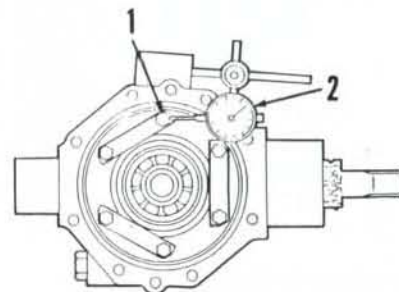

Fig. 11—Use a dial indicator (2) to measure ring gear (1) backlash. Refer to text for adjustment.
**7. RING GEAR TO PINION BACKLASH.** The backlash between ring gear and pinion should be 0.10-0.15 mm (0.004-0.006 inch). With left axle housing removed, backlash can be checked using a dial indicator as shown in Fig. 11. To adjust backlash, move shims (32) from right axle housing to left axle housing.